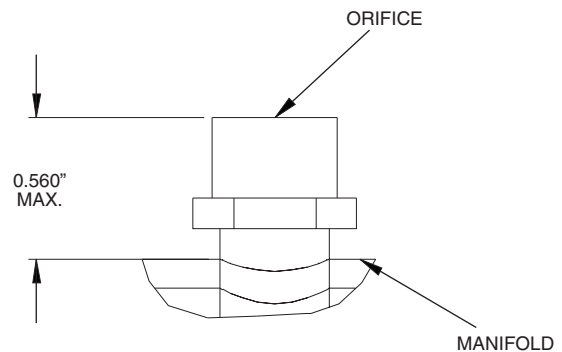

Fig. 4 — Orifice Depth
4. Insert the new orifices from the accessory kit. The orifices should be screwed in until 2 threads remain visible. Save the old orifices for possible reinstallation if natural gas becomes available. See Fig. 4.